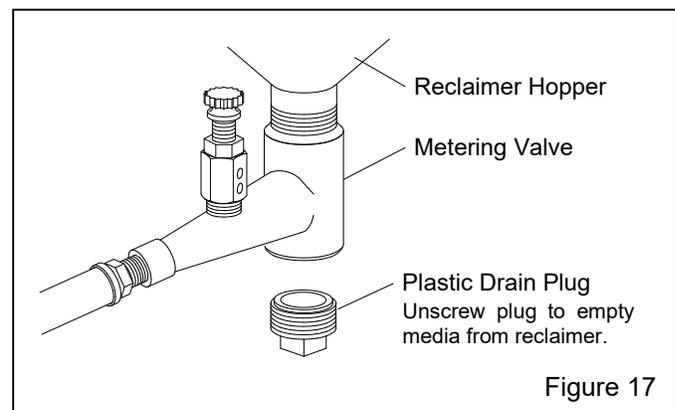

Figure 17
4.2 Media Unloading – Figure 17